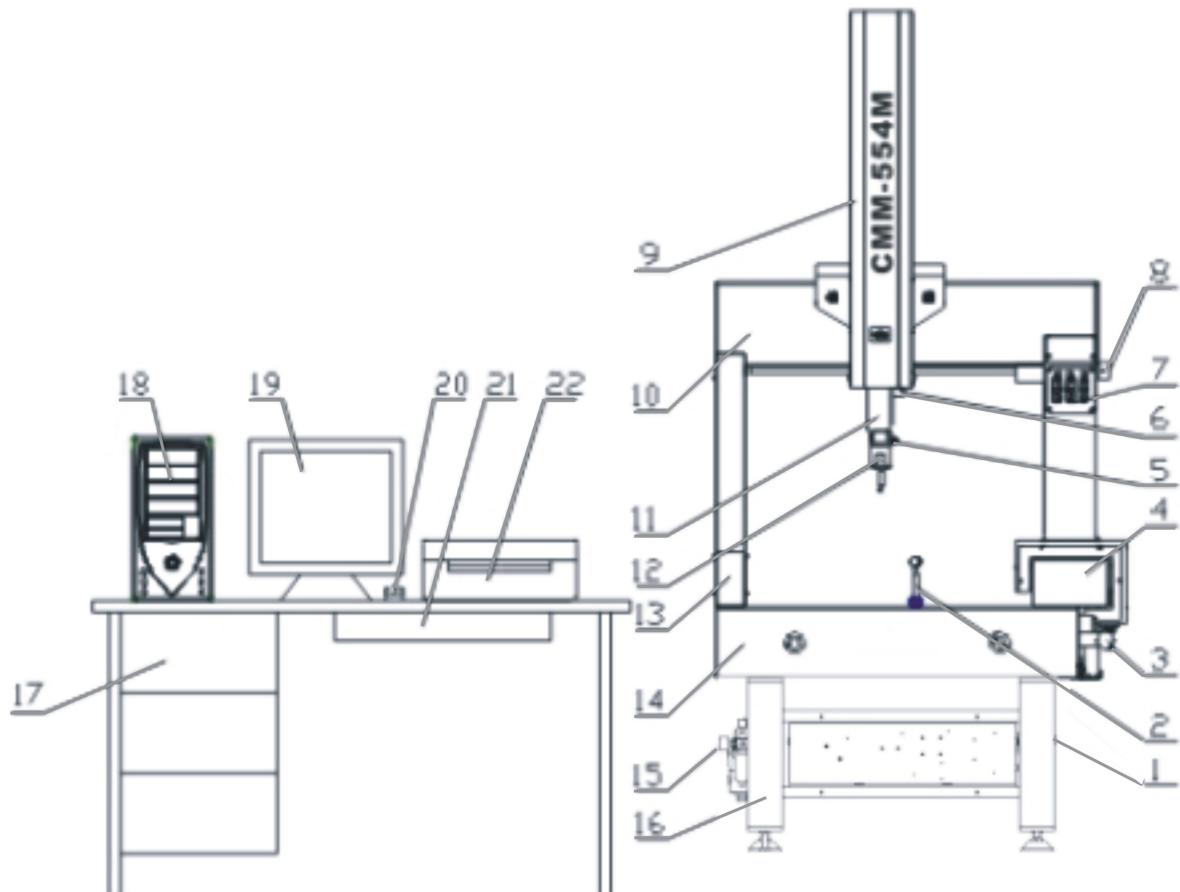

Fig.1 Overall structure of instrument
3.1 Structure (Fig.1)
- 1). Loosen the clamp handle on the right side of probe pedestal in the Z axis.(Item 5 in Fig.1)